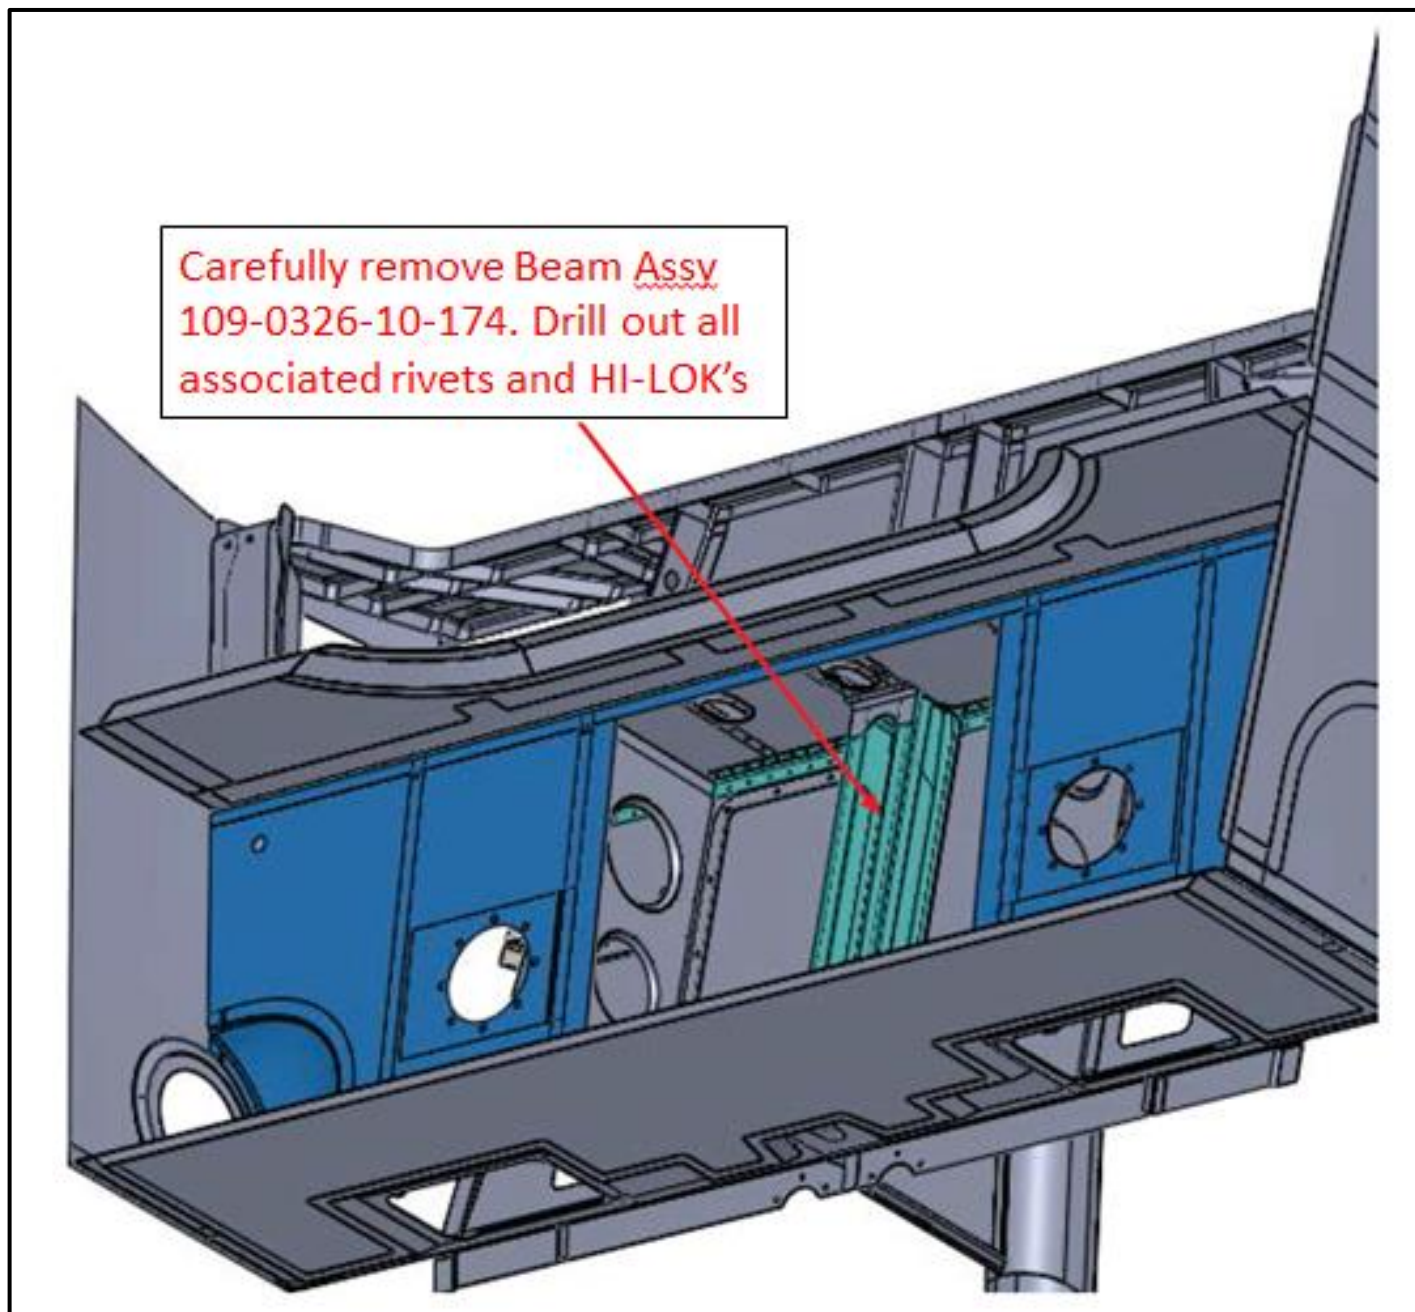

Figure 4 - Beam Assy STA4010.0 to STA4460.0 – Replacement procedures
4. Carefully remove beam assy 109-0326-10-174 drilling out all associated rivets and HI-LOKS (Figure 4).
7. Visually inspect the area for the presence of cracks, corrosion, elongated holes and additional damage. (ref Figure 4).